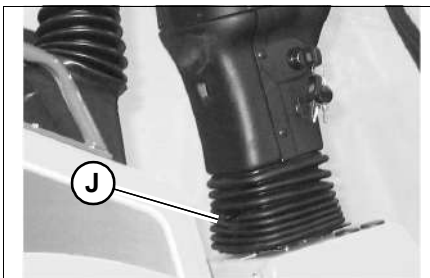

Figure 14 – Steering Column Adjustment
1. Push the adjustment lever (J, Fig. 14) downward.